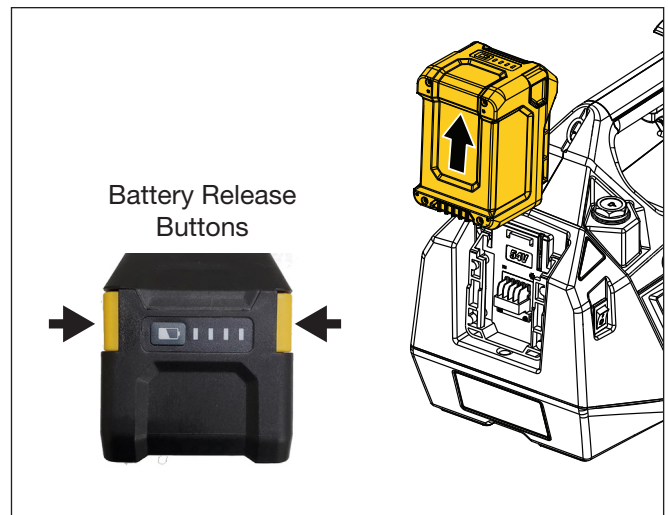

Figure 4: Battery Removal (typical)
- To remove battery:** Press and hold the release buttons located on both sides of the battery. Then, slide the battery off of the battery interface and remove it from the cordless tool. See Figure 4.